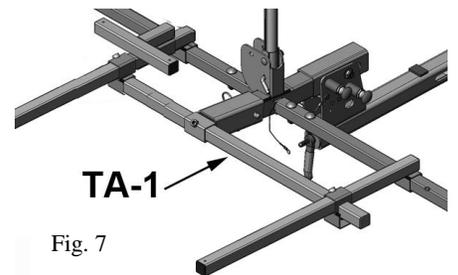

Fig. 7
Step 6: Insert TA-1 straight tube through both TA-6 connectors and the TA-7 front bracket. (Fig. 7)